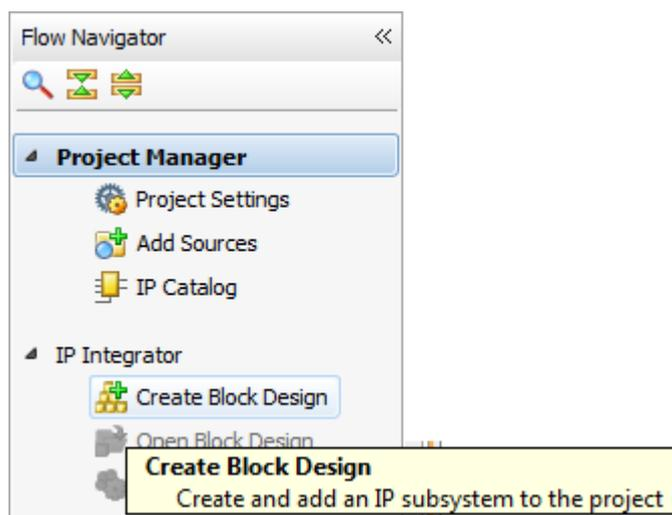

Figure 1.8: Creating a new Block Design in Flow Navigator
- (a) In the *Flow Navigator* window, select **Create Block Design** from the *IP Integrator* section, as in Figure 1.8: